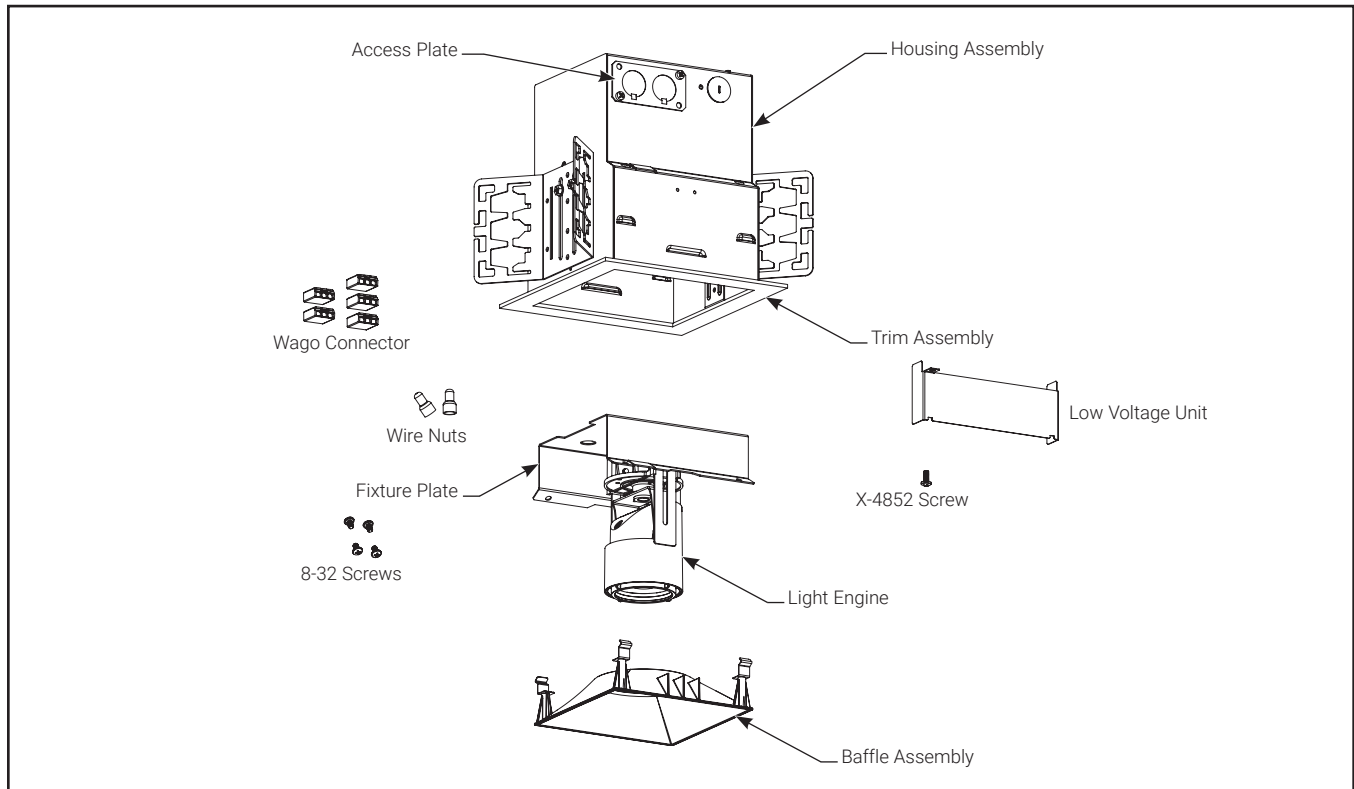

Figure 1.
1. Unpack 4" Multi Head fixture and ensure that all parts are included. (Figure 1)